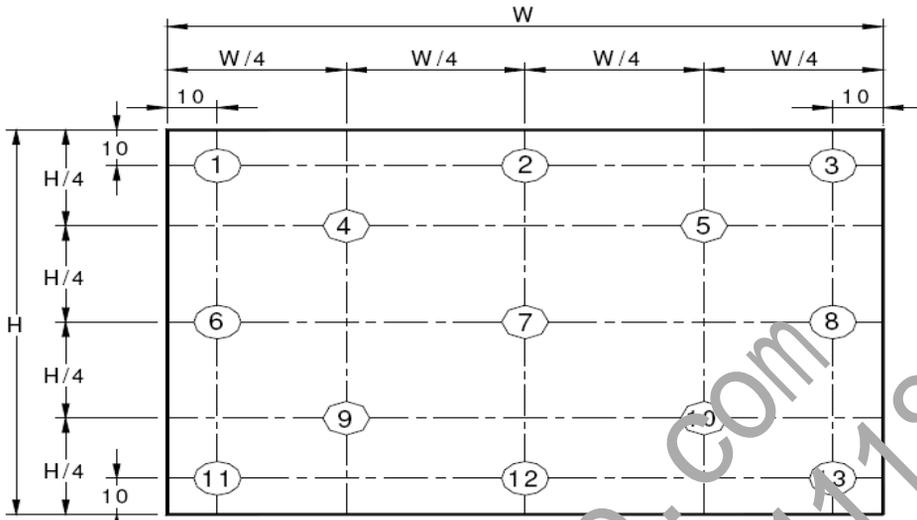

Figure 9. Uniformity Measurement Locations (13 points)
- The White luminance uniformity on LCD surface is then expressed as :  $\Delta Y = \text{Minimum Luminance of 5(or 13) points} / \text{Maximum Luminance of 5(or 13) points.}$ (see Figure 8 and Figure 9).
The White luminance uniformity on LCD surface is then expressed as:  $\Delta Y_5$  = Minimum Luminance of five points / Maximum Luminance of five points (see Figure 8),  $\Delta Y_{13}$  = Minimum Luminance of 13 points / Maximum Luminance of 13 points (see Figure 9).